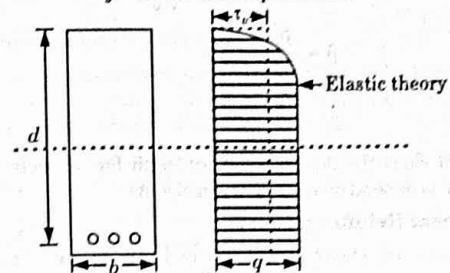

Fig. 2.1.1. Shear-stress distribution in RCC beam.
- It is shown in Fig. 2.1.1 by the hatched portion of the curve. It is parabolic in the compression zone with zero at the top and maximum at the neutral axis.
- IS code recommends the use of nominal shear stress ( $\tau_v$ ) for RCC beams. The nominal shear stress ( $\tau_v$ ) or average shear stress distribution is shown in Fig. 2.1.1 is given by,